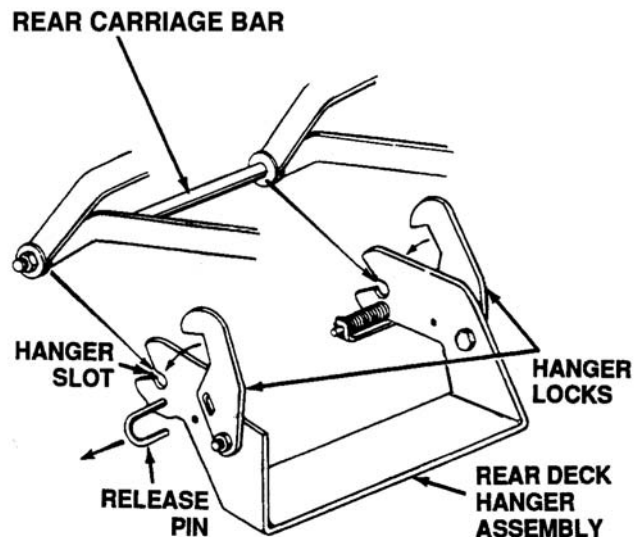

Figure 8-39. Pulling Release Pins
6. Pull release pins and raise rear hanger locks. See Figure 8-39.